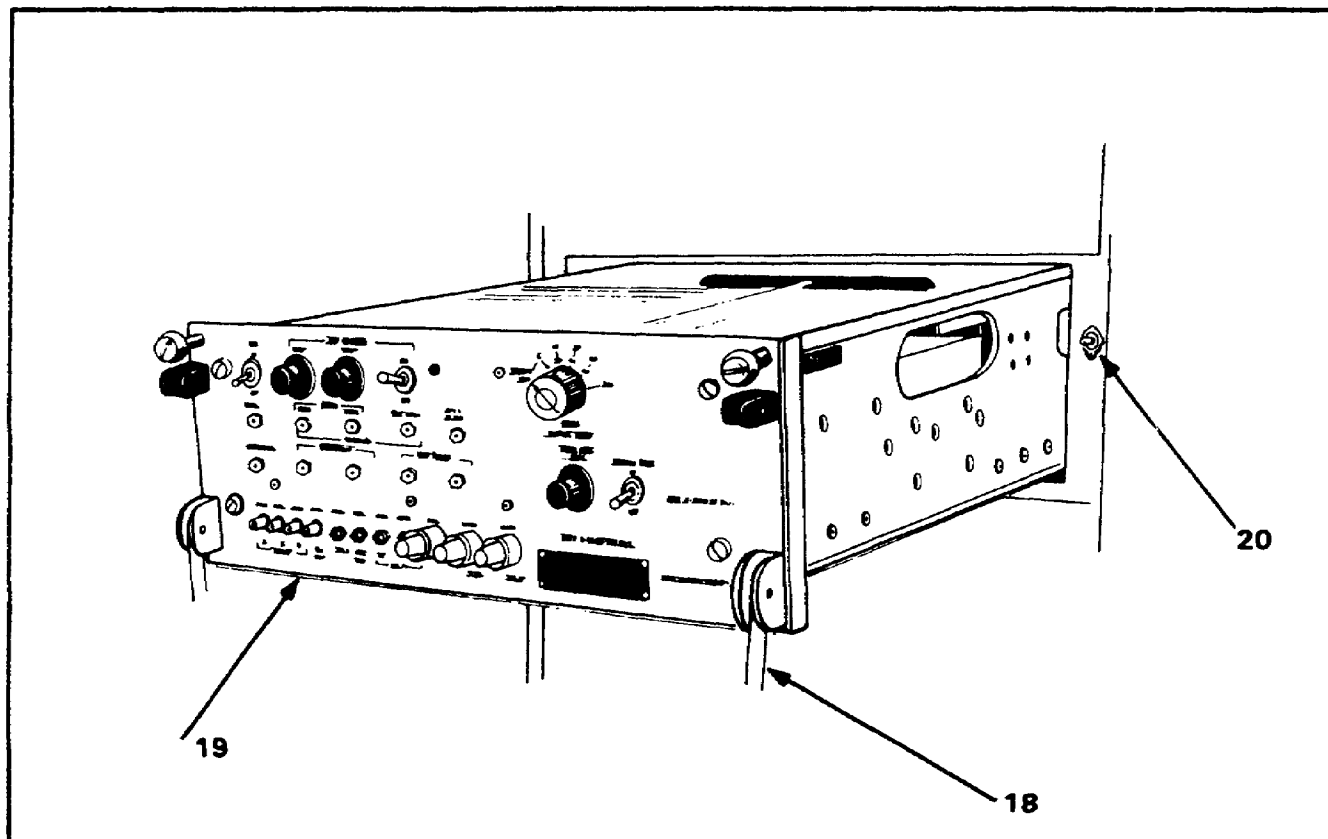

Figure 8. Synchronizer-generator, electronic-marker
g. Disengage the release handles (18). Pull the drawer (19) forward and locate the INTERLOCK switch S102 (20). Pull the INTERLOCK switch forward. (See Figure 8.)
- _____ Chassis interlock switch S-102 (Figure 8)